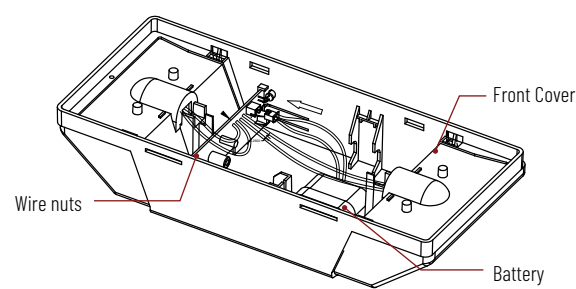

Figure 1
1. Use flat blade screwdriver insert into the two slots to pry off front cover from back plate (see Figure 1).